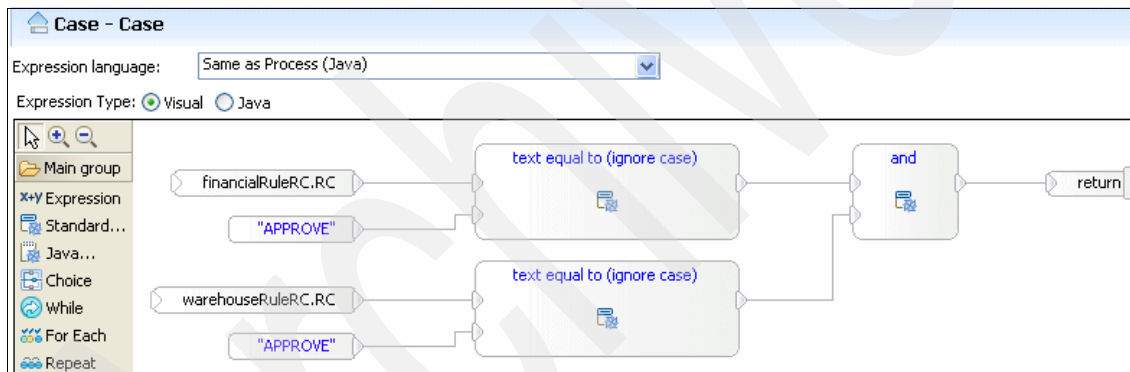

Figure 3-168 Case Details
2. Go to **Properties** → **Details** and build the Case as shown in Figure 3-168. (The process is similar to that described in “Adding a Choice activity to verify the customer and item exist” on page 86.)